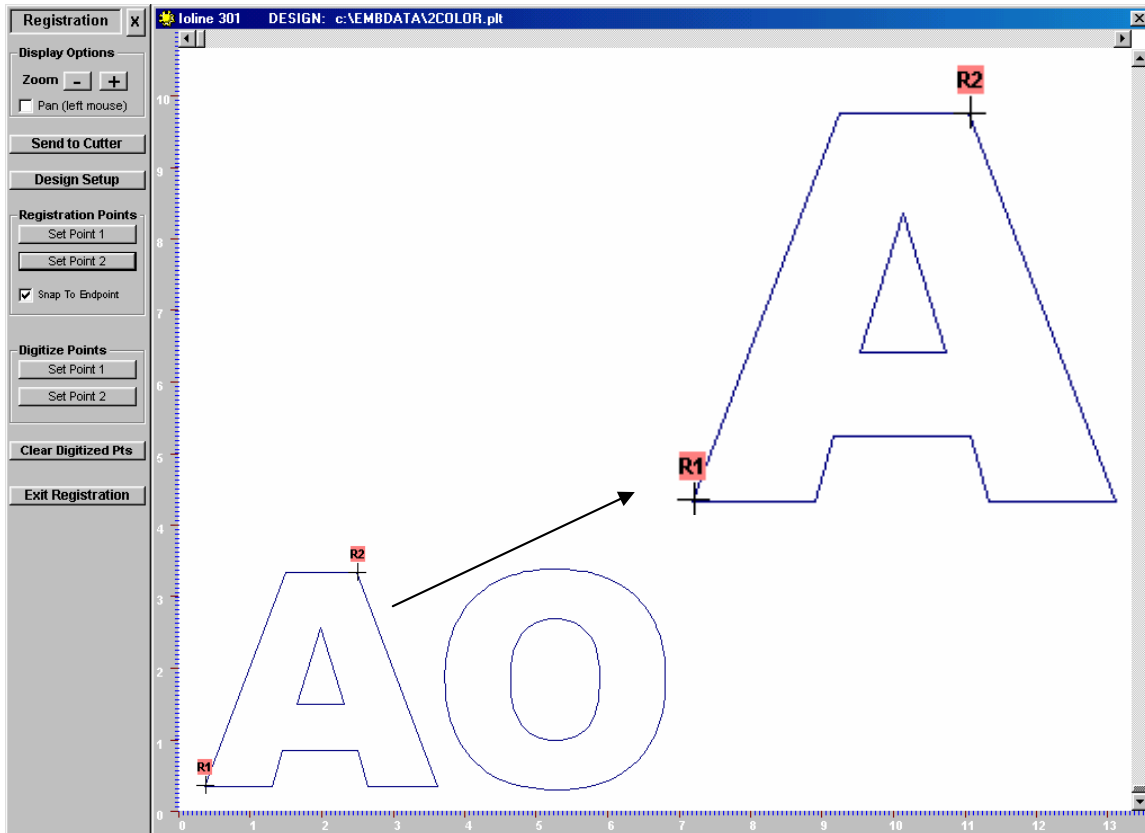

Figure 2: Registration Points.
- Click the right mouse button to accept 1st registration point. See Figure 2.